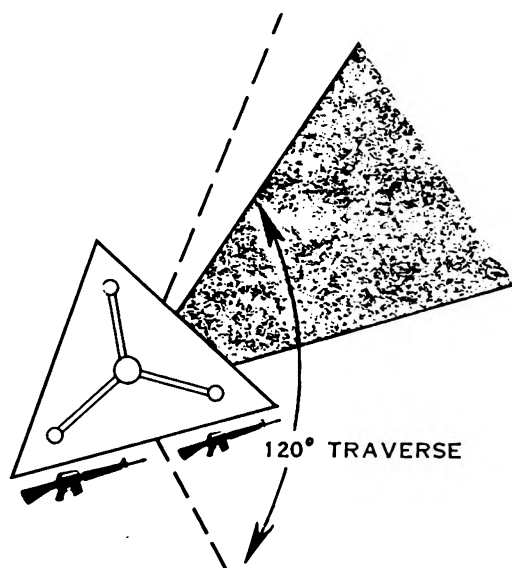

Figure 1.
3. Next, dig in (figure 1 thru 4). If a natural frontal parapet is available, carry away and camouflage dirt from the hole; if not, make the frontal parapet with hole dirt. The barrel of the 106-mm rifle should clear the parapet, enabling it to fire to the front.